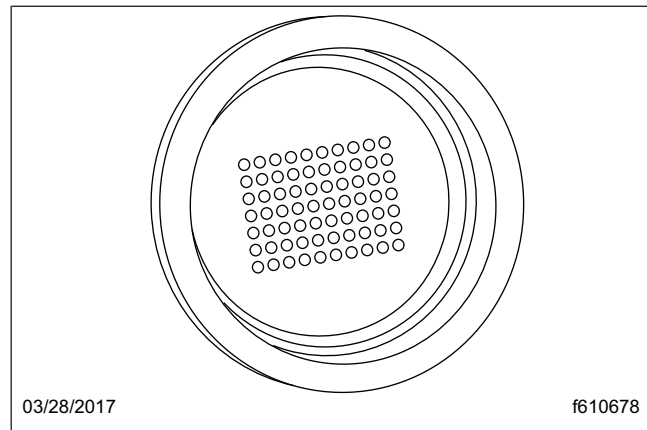

Fig. 15.9, Gear Indicator: Power Up Dot Display
1. With the parking brake set, turn the ignition switch on and allow the shift selection module to power up. The gear indicator will show the dot display, arranged in a square pattern. All dots in the pattern should light up, without gaps or spaces. See Fig. 15.9.